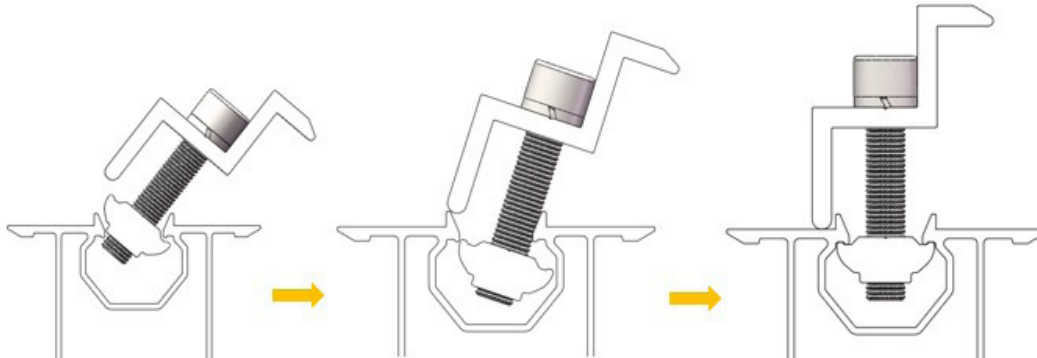

Figure 18
5.4.1 Click the pre-assembled End Clamp or Inter Clamp II into the grooves of the Rail 60 with Water Channel as shown in Figure 18.